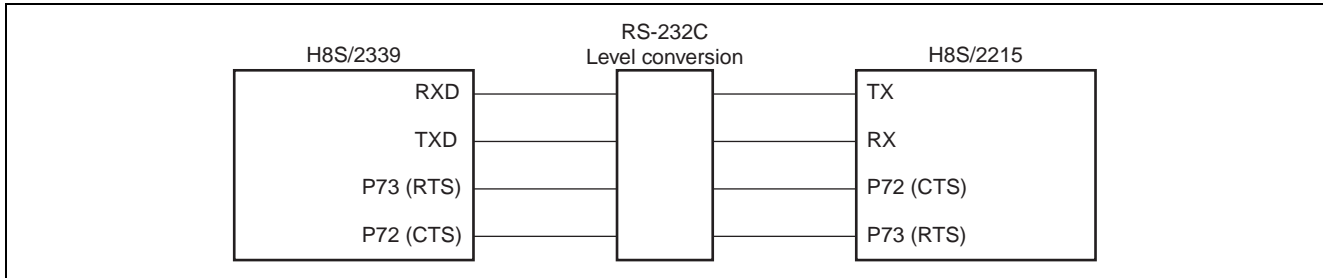

Figure 1 Block Diagram of Asynchronous SCI by H8S/2339
1. As shown in figure 1, this function sends and receives 1-byte data in the asynchronous mode between an H8S/2339 and H8S/2215.